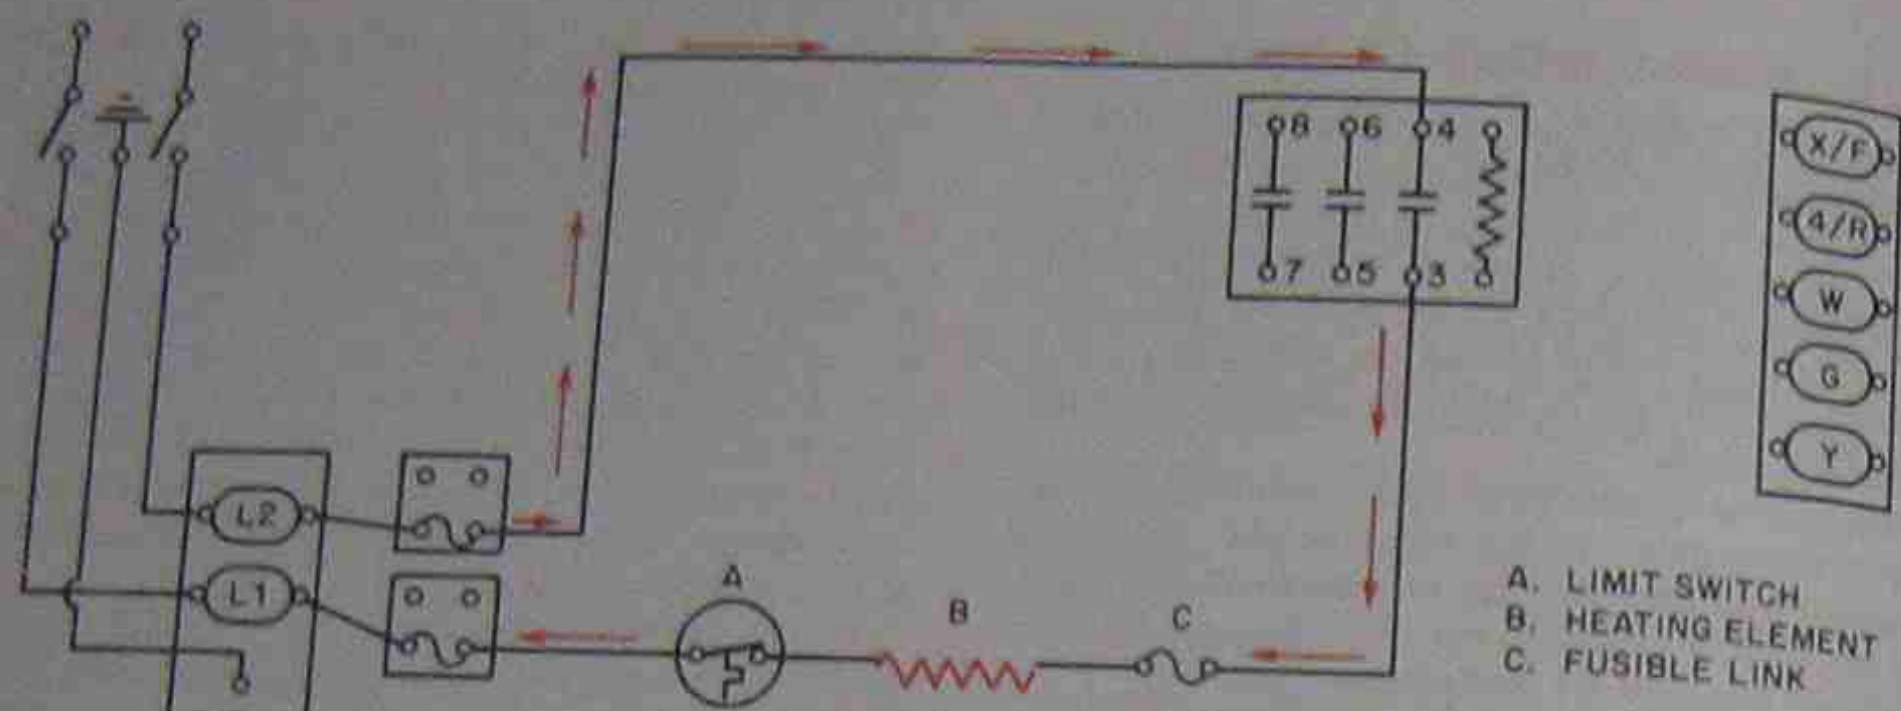
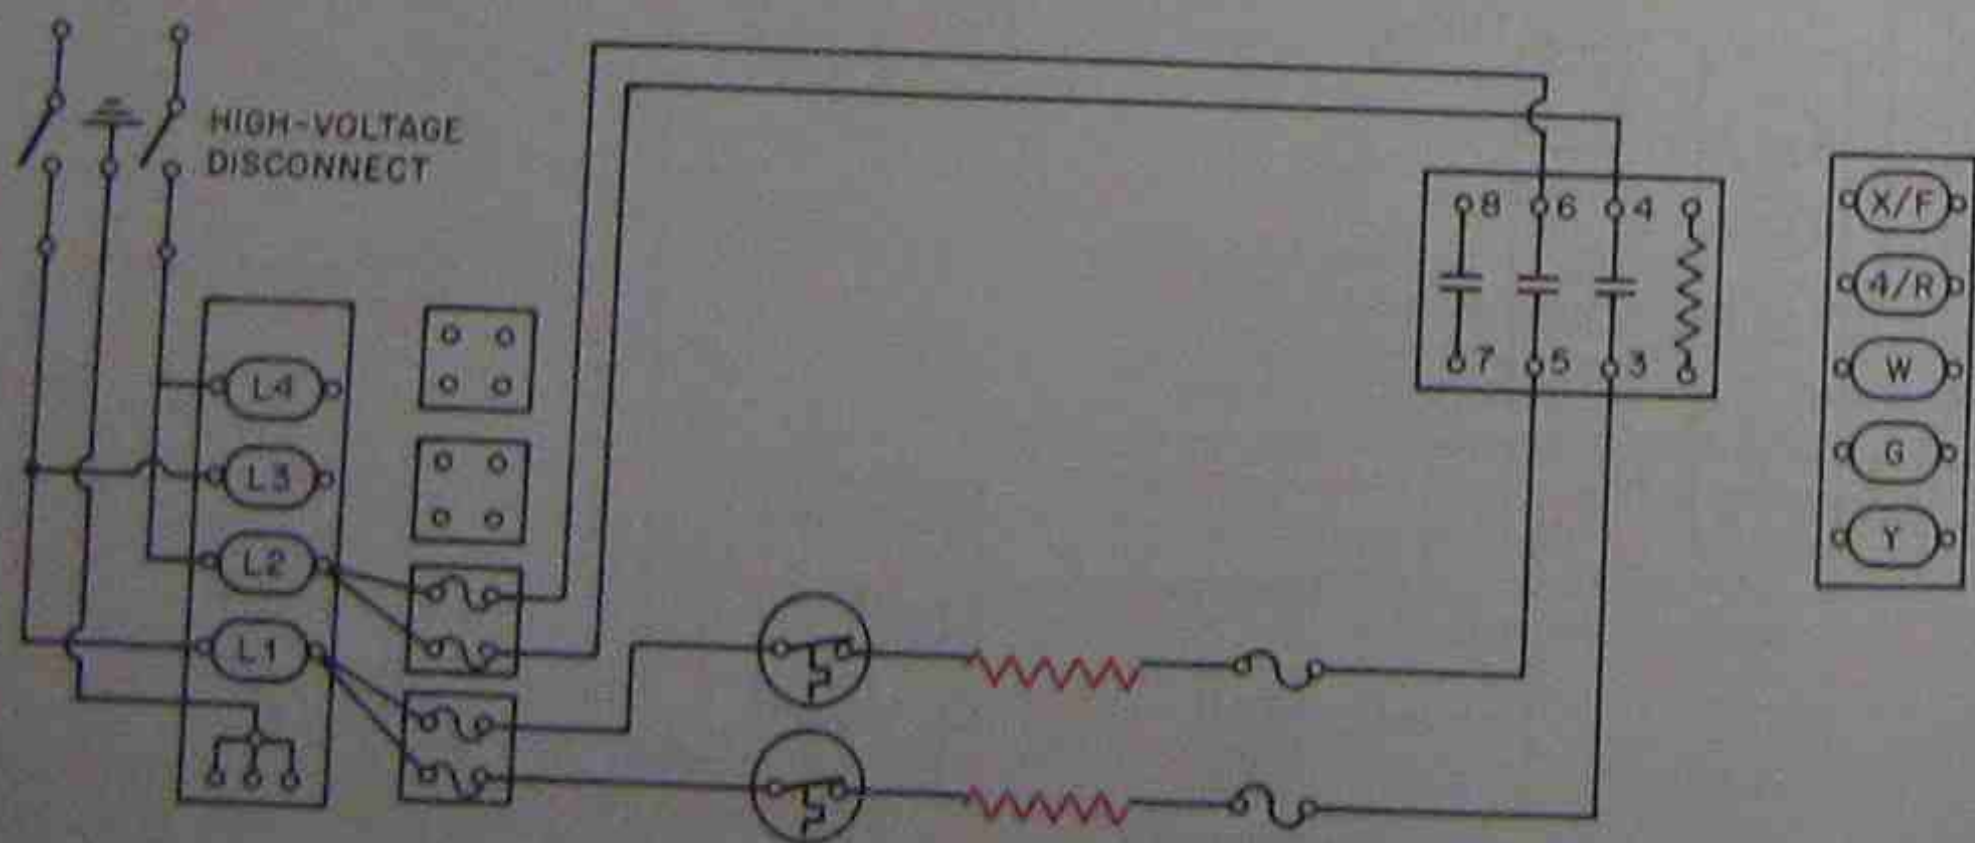
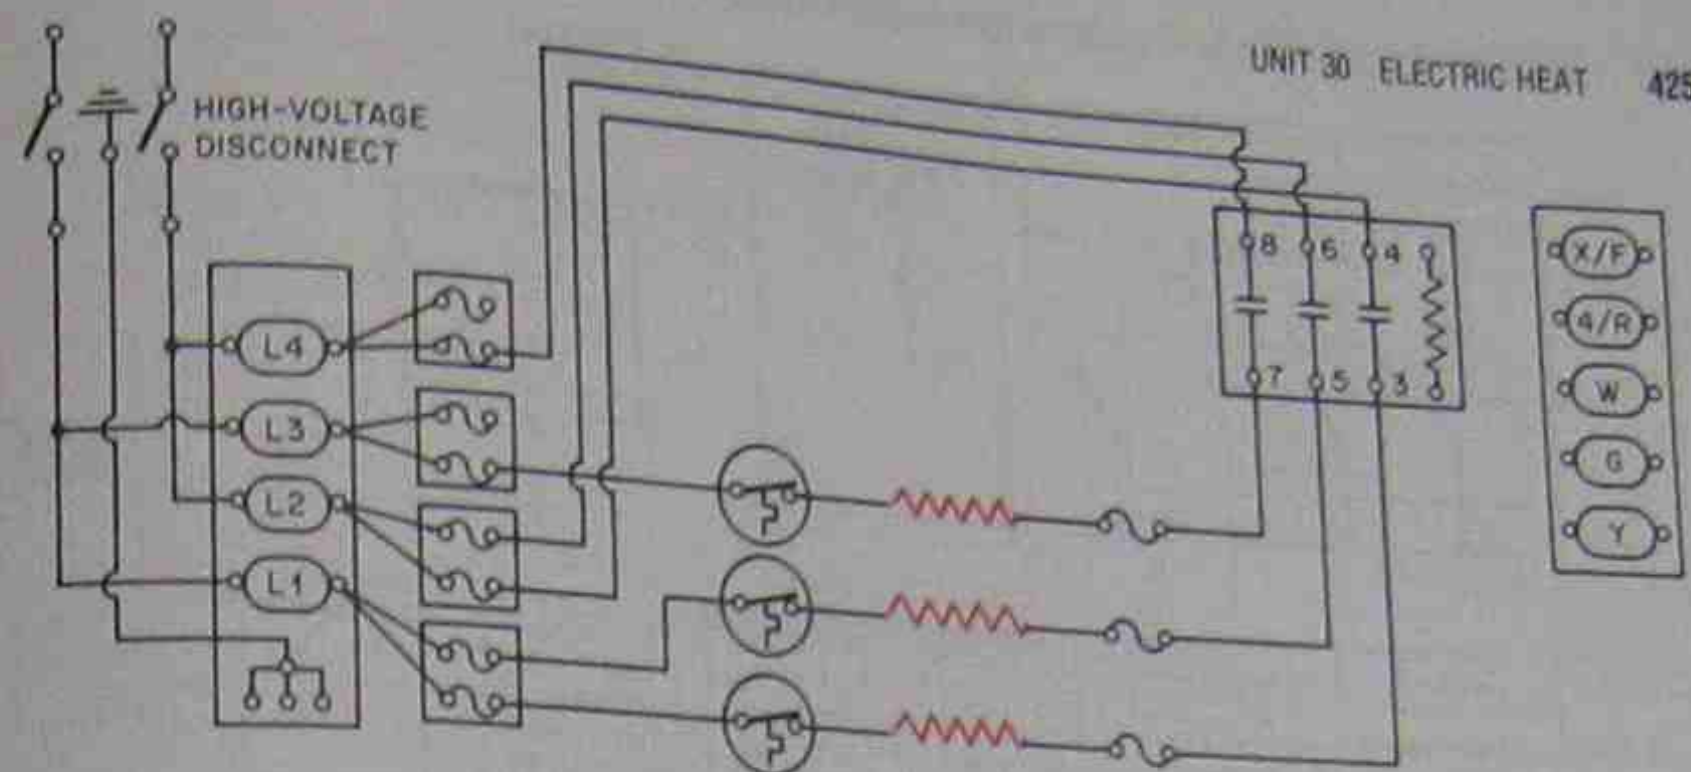

Figure 30-15. Single-heating-element circuit with sequencer (high voltage).
Figure 30-16. Two-heating element circuits.
Figure 30-17. Three-heating element circuits.
Single-heating-element control is illustrated in Figure 30-15. The electrical current from the L1 fuse block goes directly to the limit switch. This is a temperature-actuated switch (A) that opens under excessive heat and provides protection to the furnace. It is usually an automatic reset switch that closes when the temperature cools. It is wired to the heating element (B) and to a fusible link (C) that provides additional protection from overheating of the elements. Under higher temper-
See Figure 30-16 for a diagram of a furnace with two heating elements. See Figure 30-17 for an example of one with three elements. Each of these examples is using the same package sequencer as shown in Figure 30-15.